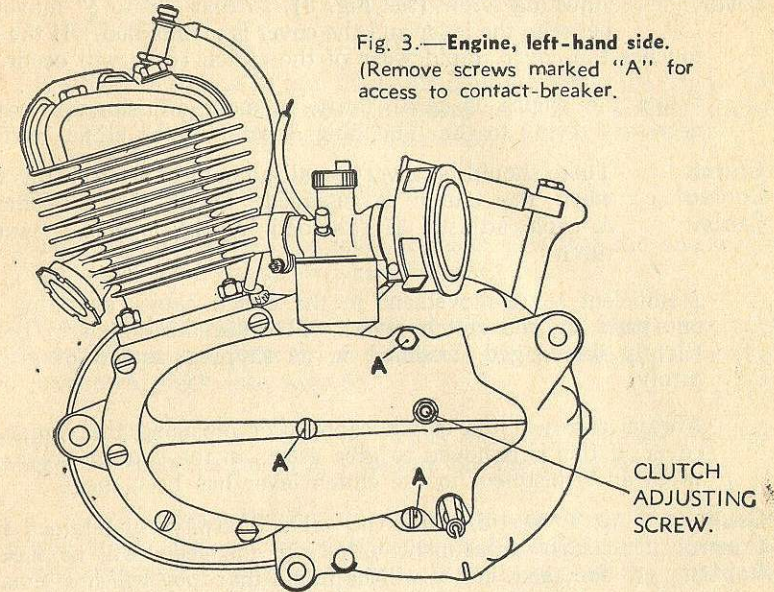

Fig. 3.—Engine, left-hand side.
**After the First 500 Miles.** Examine the contact breaker points. Access to these is obtained by removing the three screws marked "A" on Fig. 3, and the cover they secure. The points may require slight adjustment after their initial "bedding-in," and for this refer to page 8.
**Clutch Lever.** The clutch lever should be adjusted, by means of the adjusting screw (see Fig. 3), so that  $\frac{1}{16}$ " to  $\frac{1}{8}$ " movement between the lever and the cover is maintained. If the lever touches the cover, rapid wear of the clutch corks will occur.